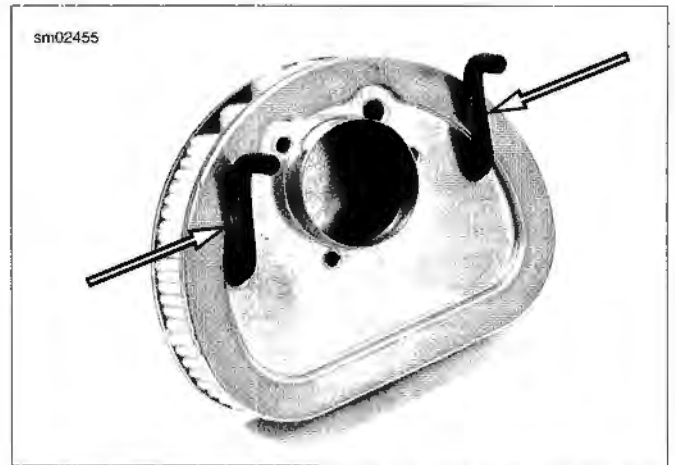

Figure 1-8. Breather Tubes on Backside of Filter: All But FLSTSB Domestic
2. **Oval air cleaner:** see Figure 1-8. Insert two breather hoses into the holes in back of the filter element and place the element back into position. Attach breather hoses to breather screws on backplate.